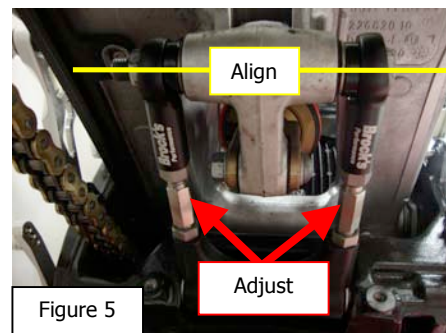

Figure 5
8. Adjust the length of the links to align the link ends with the bearing race in the pivot lever. The bolt should easily slide through link ends and pivot. See Figure 5.